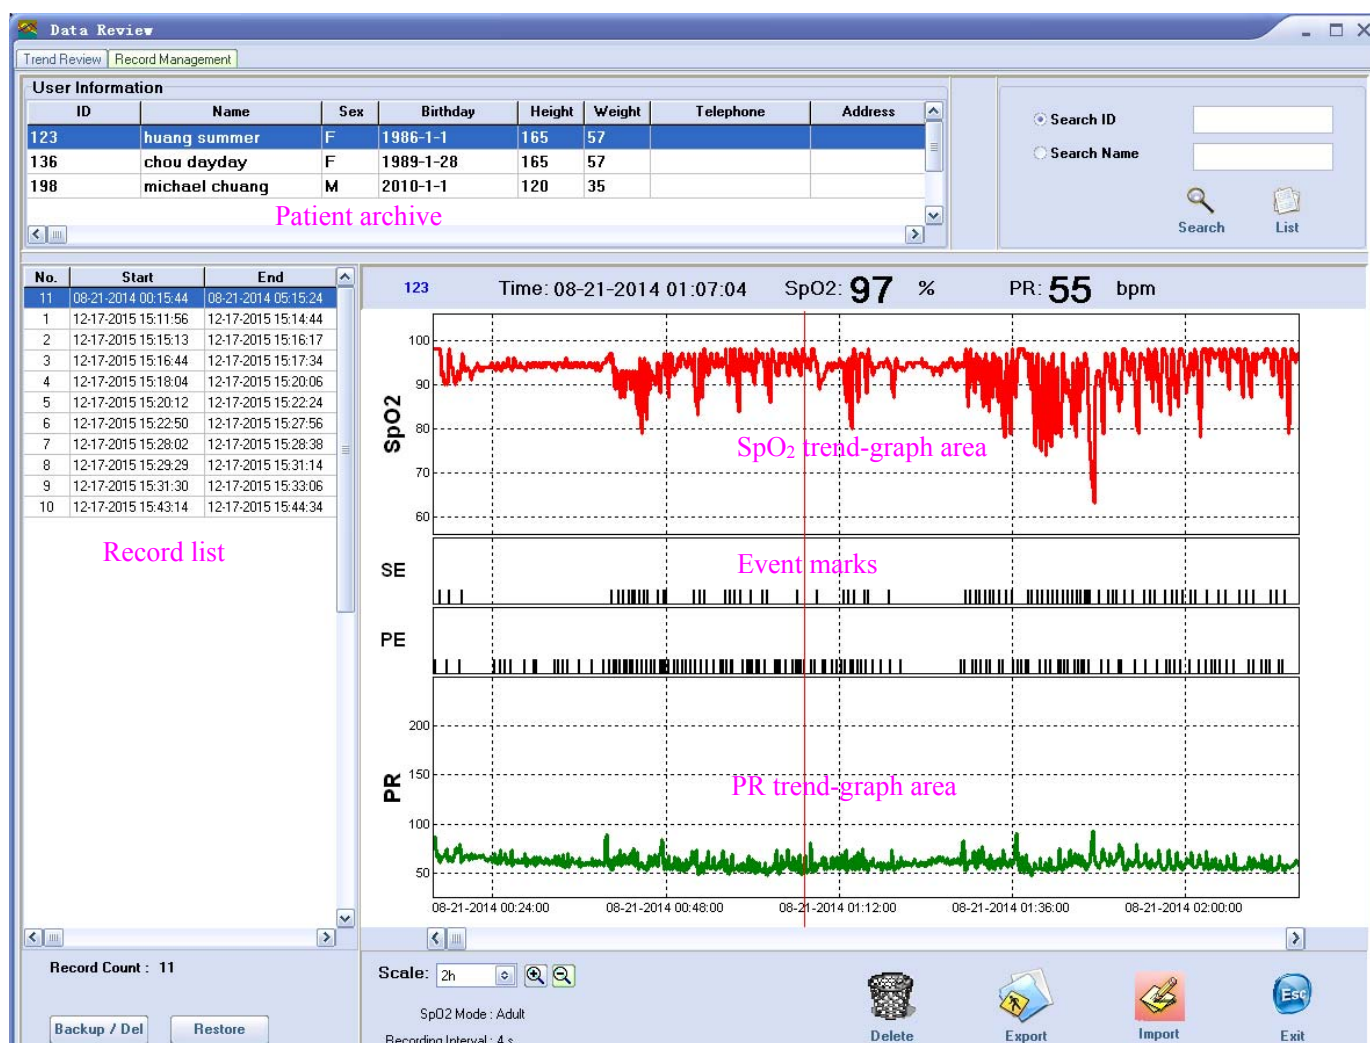

Figure 3-7 Record Management
Choose "Record Management" page. Select an archive member, all the records of this patient will be listed in record list. Next, choose a piece of record from record list, all the graphic trends corresponding to this record will be displayed in graphic trend area (as shown in Figure 3-7).
1. "SpO₂ at (Time)": it indicates the distribution chart of SpO₂ value (by percentage of total measuring time). From the table in Figure 3-7, we can get the information below: In entire measuring time, all the SpO₂ values are less than 100%.